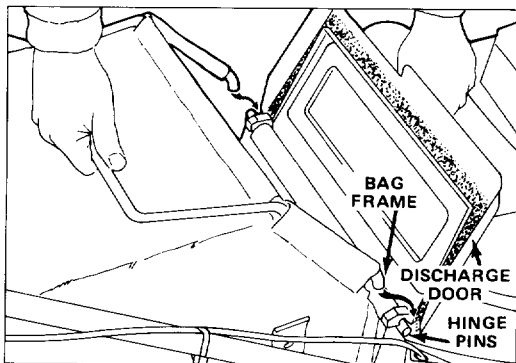
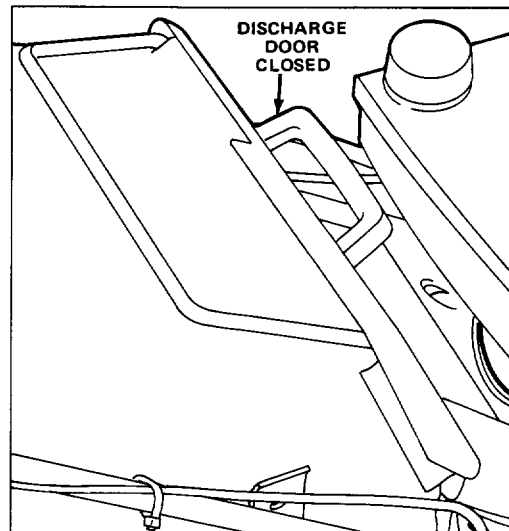

Figure 2
Figure 3
6. To install grass bag, raise discharge door and hook bag frame onto hinge pins (Fig. 2). Allow bag to rest on mower housing over discharge opening. Close door and make sure it seals around top of bag opening (Fig. 3).